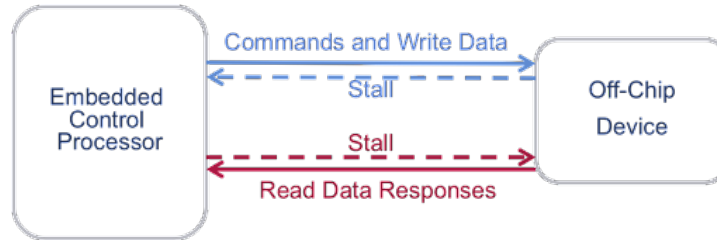

Figure 3: Communication diagram.
2. (7 points) You are designing a system that has an off-chip device that needs to have both data and commands sent to the device, while also being able to respond with data on a read request. Both the device and control processor need a mechanism to stall transactions. Figure 3 illustrates the system.